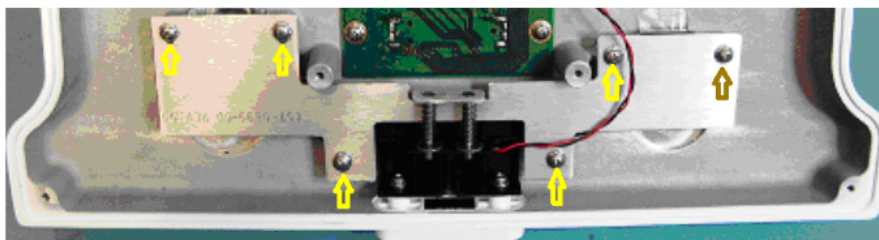

Figure 4-30 Latch Docking Station
- 6 To make room to slide out the docking station PCBA, loosen the six screws on the latch assembly in order. Refer to Figure 4-30 on page 4-33.
- 10 Perform functional tests in accordance with the monitor functional tests. Refer to Figure 4-30.
- 5 Remove the six (6) screws on the latch assembly. Refer to Figure 4-30 on page 4-33.
- 6 Carefully remove the pins, springs, and washers. Refer to Figure 4-30 on page 4-33.
- 7 Remove the two (2) screws from the push-button support bracket.
- 2 Remove the screws holding the push-button assembly. Refer to Figure 4-30 on page 4-33.